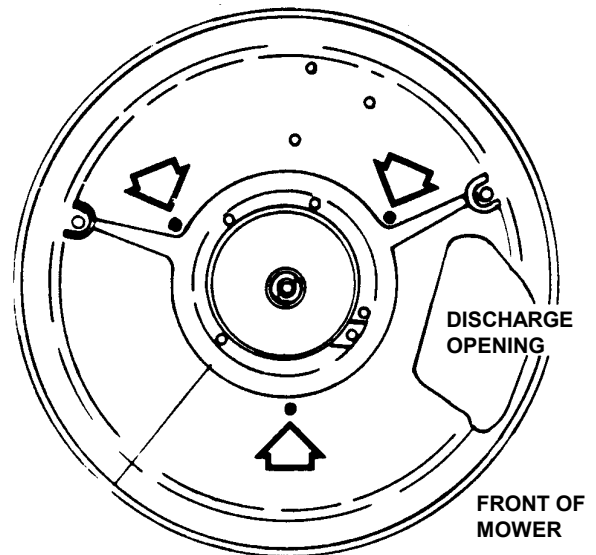

Figure 1 - Screen Mounting Holes
1. Position the screen on underside and turn it until the three studs on the screen go through the matching holes in deck then secure with three split lockwashers and hex nuts on topside of deck. See Figure 1.